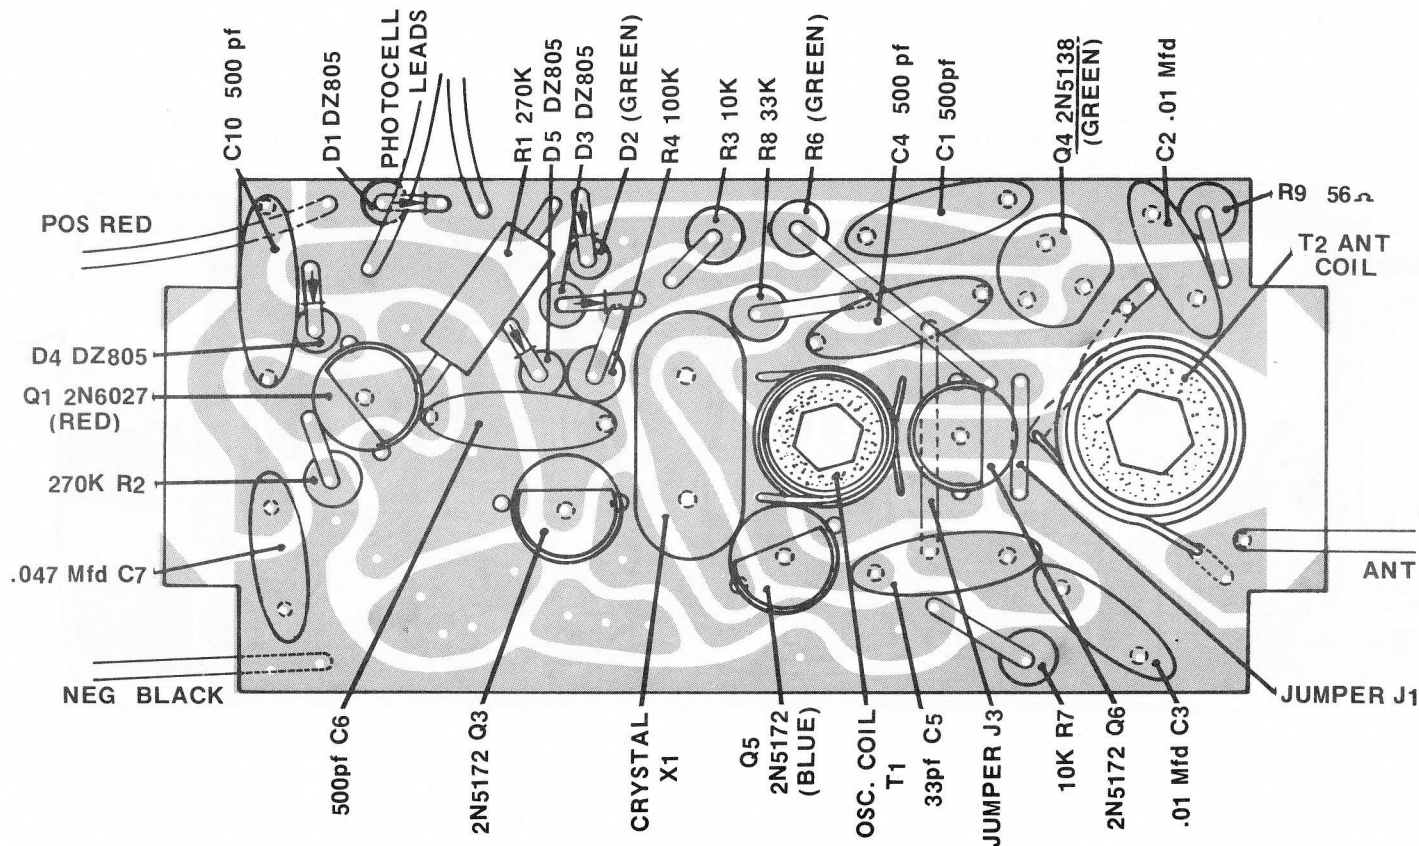

FIG. 1B "B" CONFIG. TRANSROC, SPIN-RATE MODE
If your TRANSROC is of the "B" configuration, it will look like Figures 1B, 2B, and 3B, and the modification steps will be per the instructions which appear below:
- 2B. () Install C7 (a .047 mfd capacitor used in the spin-rate TM mode). (See Figure 1B.)
- 1B. () Desolder and disconnect the photocell leads from the PC board. (See Figure 1B.)
- 3B. () Desolder and remove C7 (a 0.047 mfd capacitor). (See Figure 1B.)